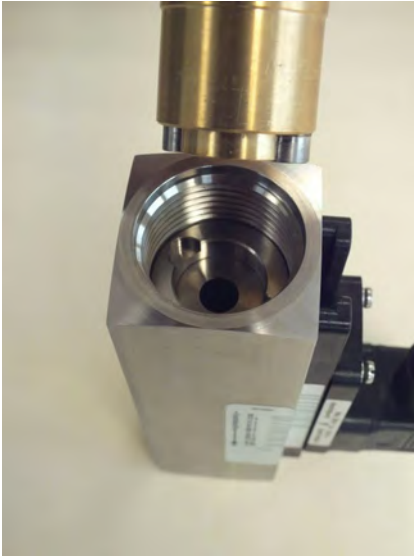

Fig. 52: Insert threaded ring insertion tool (inlet)
- 15. ▶ Insert the threaded ring insertion tool into the device inlet (Fig. 52) and turn until it rest in the keyway of the threaded ring